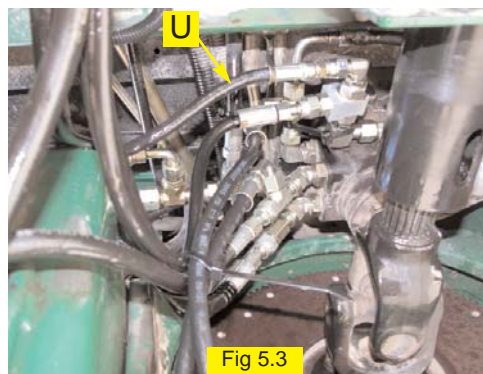

Fig 5.3
Install the load sense hose (U) between the LS port on the hydraulic control block and the load sense shuttle fitting (M). (Figure 5.3 and 5.4)